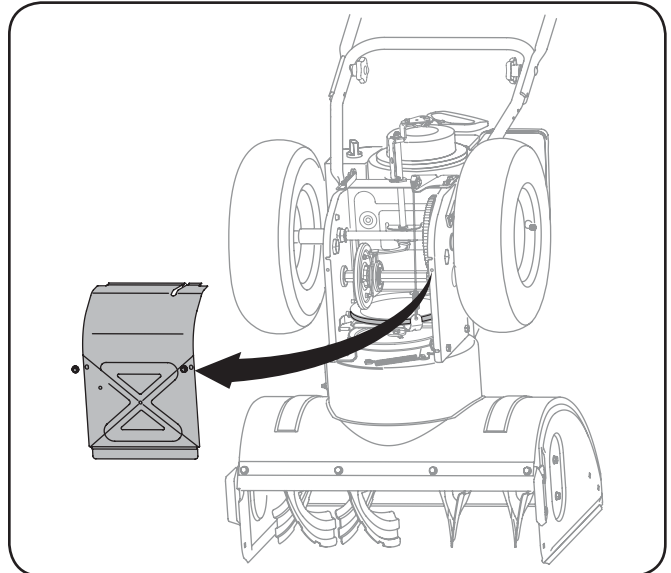

Figure 7-3
3. Remove the frame cover from the underside of the snow thrower by removing four self-tapping screws which secure it. Refer to Fig 7-3.
4. Remove the frame cover from the underside of the snow thrower by removing four self-tapping screws which secure it. See Fig 7-3.
5. Remove the frame cover from the underside of the snow thrower by removing four self-tapping screws which secure it. Refer to Fig. 7-3.